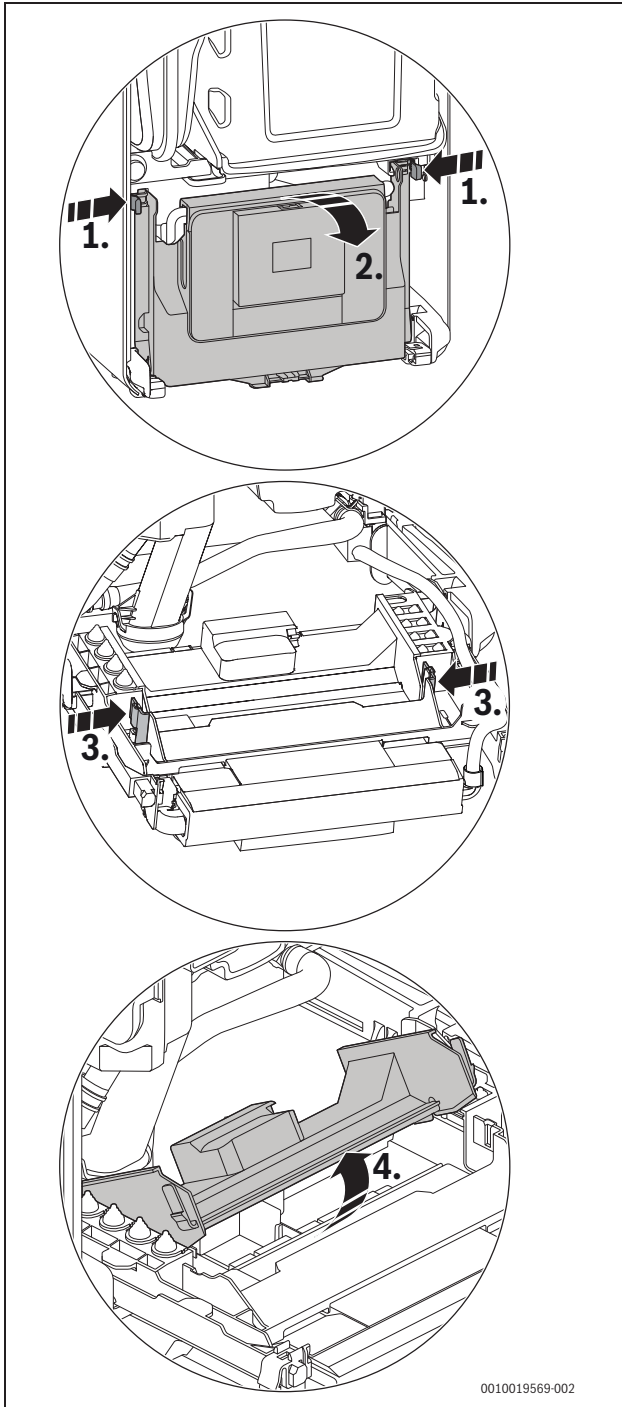

Fig. 58 Opening the cover
If the power cable is of insufficient length and is to be replaced, access the connection terminal (→ Fig. 58)
- ▶ Flip down the control unit (→ Fig. 58, Page 40).